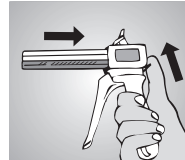
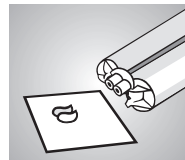
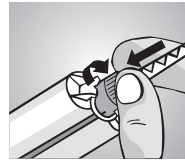

Fig. 2
Fig. 3
Fig. 4
Cartridge material is extruded using the Automix2System dispensing gun (Fig. 2). After inserting cartridge into dispensing gun, unscrew cap and carefully extrude a small amount of material to insure proper flow from both ducts (Fig. 3). Attach mixing cannula by aligning notched side to cartridge and turning clockwise until fastened (Fig. 4). Dispenser now ready to mix silicone in any amount needed. Leave mixing cannula on cartridge after use. Use only blue **AccuTemp**10:1 blue mixing cannulas!
- To ensure a homogeneous mixing: Prior to insert the mixing cannula, **always** eject a small amount of material to ensure extruding **equal amounts** of base and catalyst **from both orifices** (Fig. 3).